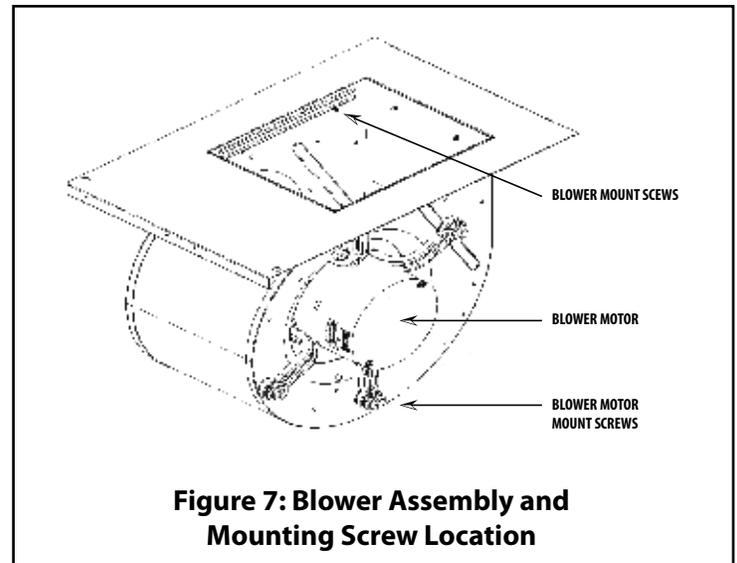

Figure 7: Blower Assembly and Mounting Screw Location
5. Remove the two screws on the left and right side and the center screw on the bracket in front of the blower mounting plate and slide the blower out . (See Figure 7)